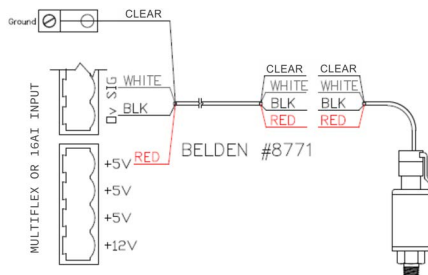

Figure 2 - Pressure Transducer Installation
- The sensor connections to the input point are polarity sensitive. The sensor can be wired to any available point on the MultiFlex or 16AI board. Connect the cable harness wires to the MultiFlex or 16AI board as shown in *Figure 2 - Pressure Transducer Installation*.